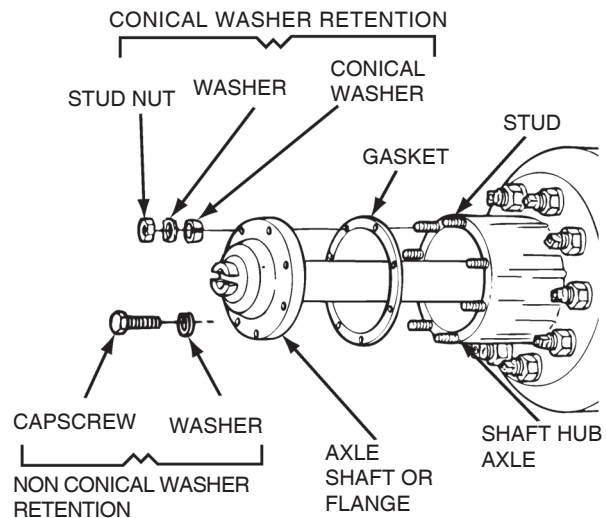

Figure 5.109
3. Install the gaskets and axle shafts in the axle housing in the differential. The gasket and flange of the axle shafts must fit flat against the wheel hub. Figure 5.109.
4. If the axle shaft hubs have conical hole studs, install conical washer in the each stud and the flange of the axle shaft. Figure 5.109.
5. If the axle shaft flange have cylindrical hole for screw mounting, install the screws and washers in the holes. Figure 5.109. Tighten the screws to the correct torque value. See the Section 8.
10. Install the gasket and axle shaft in the housing. The gasket and flange of the axle shaft must fit flat against the wheel hub. Figure 5.109.
3. Install the gaskets and axle shafts in the axle housing and differential. The gasket and flange of the axle shafts must fit flat against the wheel hub. Figure 5.109.
4. If the wheel hubs have tapered hole studs, install solid tapered washers in each stud and in the flange of the axle shaft. Figure 5.109.
2. If the drive axles are equipped with a main differential lock, shift the differential to the unlocked or disengaged position. Install the axle shafts with two sets of splines and new gaskets in the correct location as follows. Figure 5.109.